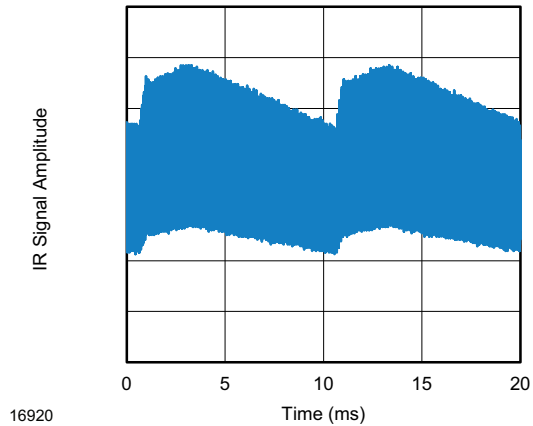
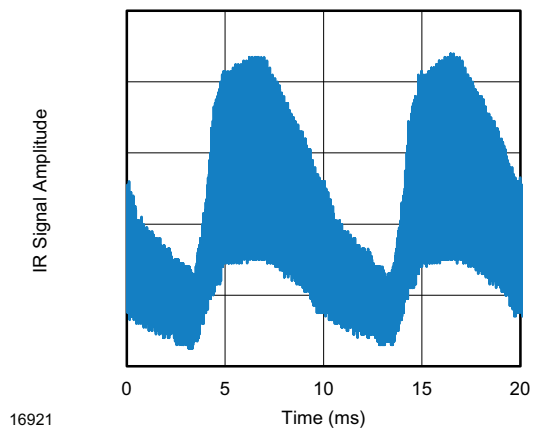

Fig. 14 - IR Disturbance from Fluorescent Lamp With Low Modulation
Fig. 15 - IR Disturbance from Fluorescent Lamp With High Modulation
- Strongly or weakly modulated pattern from fluorescent lamps with electronic ballasts (see Fig. 14 or Fig. 15)